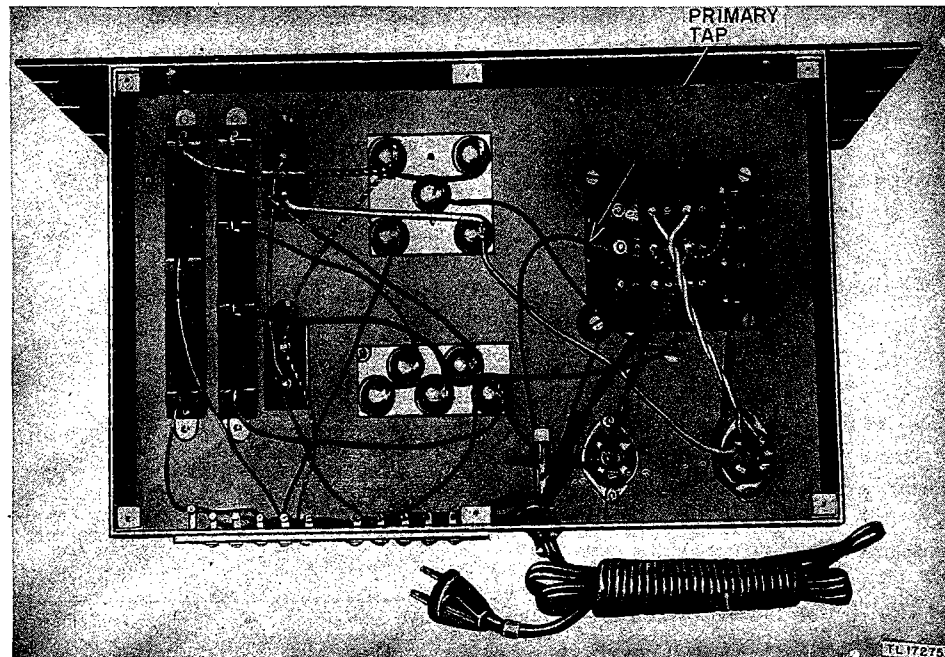

Figure 12. Bottom view of power supply unit, showing primary tap connection.
e. A-C INPUT. Before plugging the power cord into the a-c power line, remove the bottom plate from the power supply unit to see that the primary tap is properly connected for the particular a-c voltage available. This primary tap connects the fuse holder to one of the screw terminals on the power transformer, and is marked PRIMARY TAP in figure 12. Connect the primary tap to the screw terminal most closely agreeing with the available a-c line voltage and replace the bottom cover plate.
(1) Power Supply Unit RA-74(*) has eight